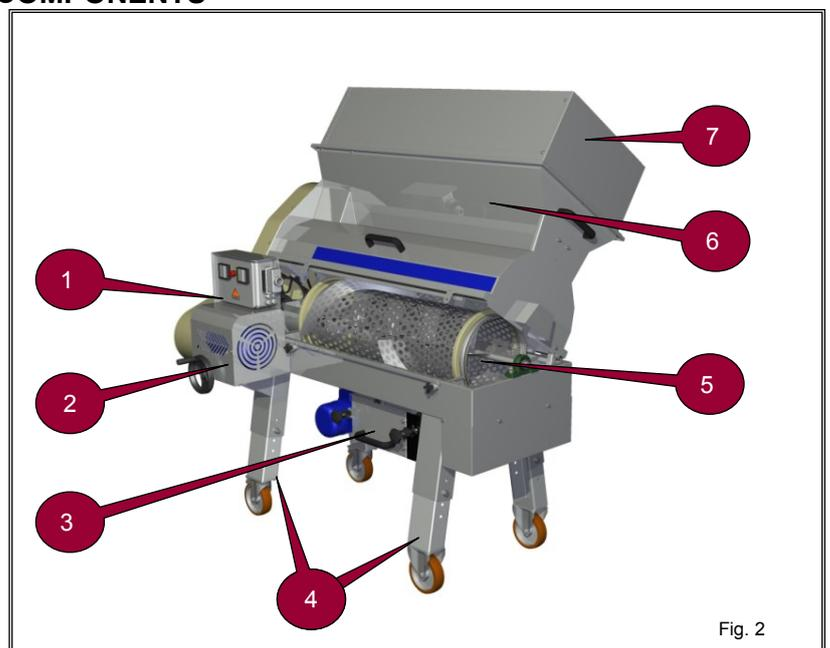

Fig. 2
- Do not open the hood (6 fig. 2) during operation;
Before starting work, install (if removed for shipping) the box protection (as in fig. 2) using the relevant screws and attach it to the hopper with the screws provided.